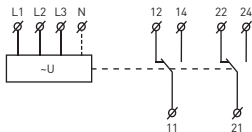

Fig. 4 – Relay wiring diagram
2. Connect the relay as per wiring diagram (Fig. 4).